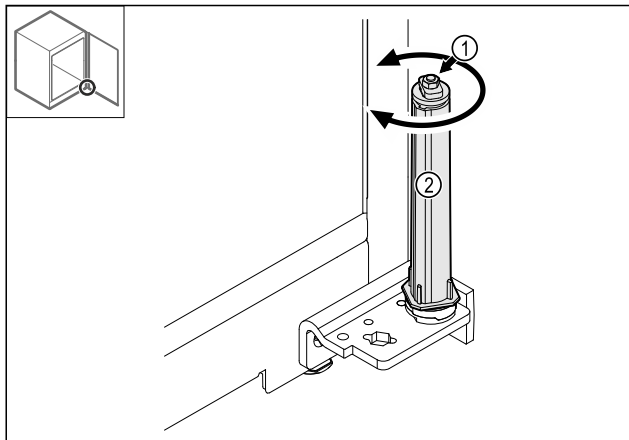

Fig. 39
- Do not dismantle the screw connection *Fig. 39 (1)* on the locking system.
- Turn the locking system *Fig. 39 (2)* until it clicks.